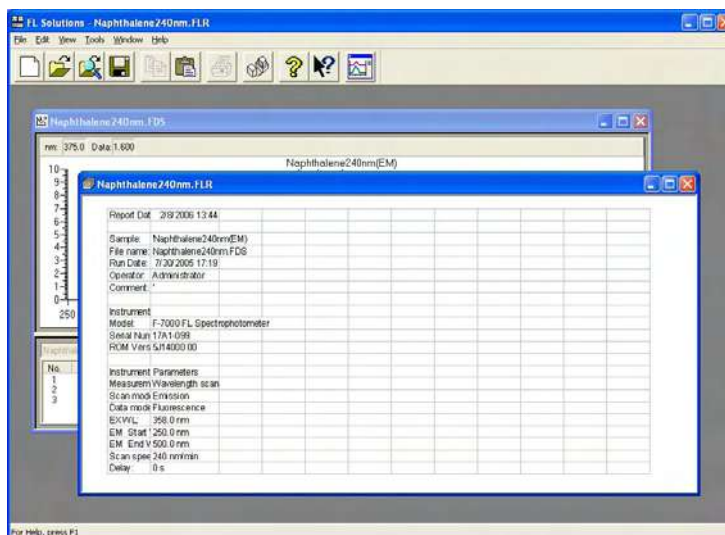

Fig. 7-42
- (4) Upon closing the Microsoft(R) Excel, a window as in Fig. 7-42 appears. Now close this window. The original data processing window will appear again.